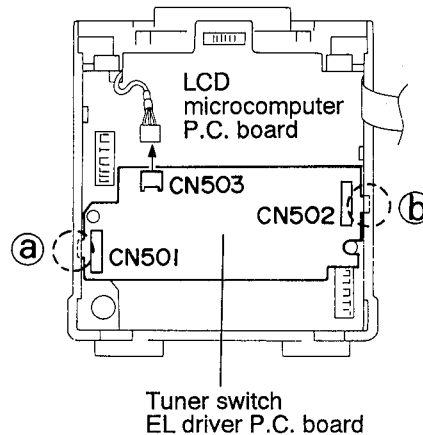

Fig.3-20
4. After removing the knob from the front face of the body and two screws ⑫, dismount the volume escusion.
■ Removing the tuner switch EL driver P.C. board and microcomputer P.C. board (See Figs. 3-20 and 3-21)
2. • Remove the one screws (13).